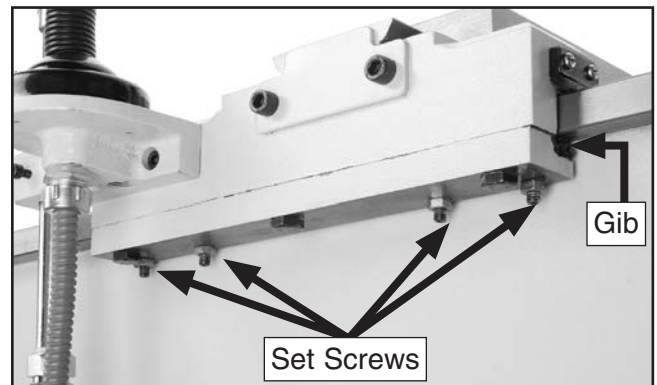

Figure 99. Saddle gib components.
The saddle gib is located on the bottom of the back edge of the slide (**Figure 99**). This gib is designed differently than the cross or compound slide gibs. Instead of being a wedge-shaped plate, it is a flat bar. The gib pressure is applied by four set screws. Hex nuts secure these set screws in place, so they will not loosen during operation.
4. Loosen the jam nuts on the four set screws shown in **Figure 99**, and adjust the set screws as follows: